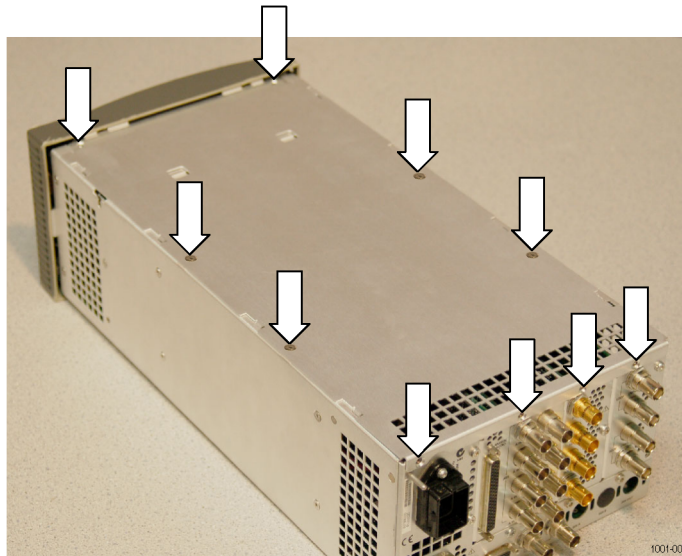

Figure 3: Removing the chassis cover
4. Remove the screws from the chassis cover. (See Figure 3.) Save the screws for reinstallation.